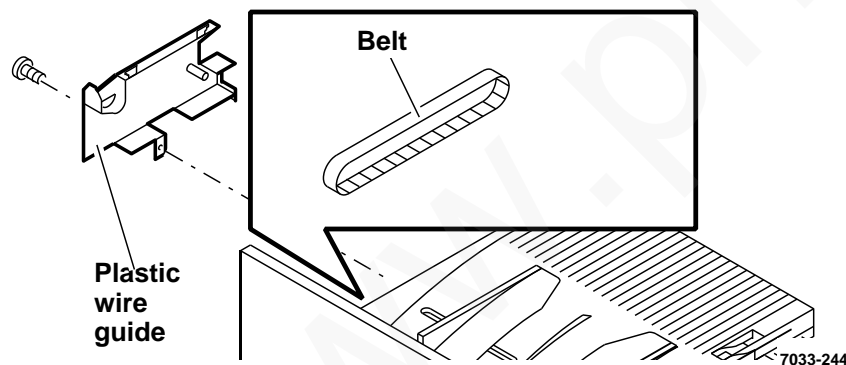

Figure 6. Paper output drive belt removal
- a. Remove securing screw and remove plastic wire guide (Figure 6).